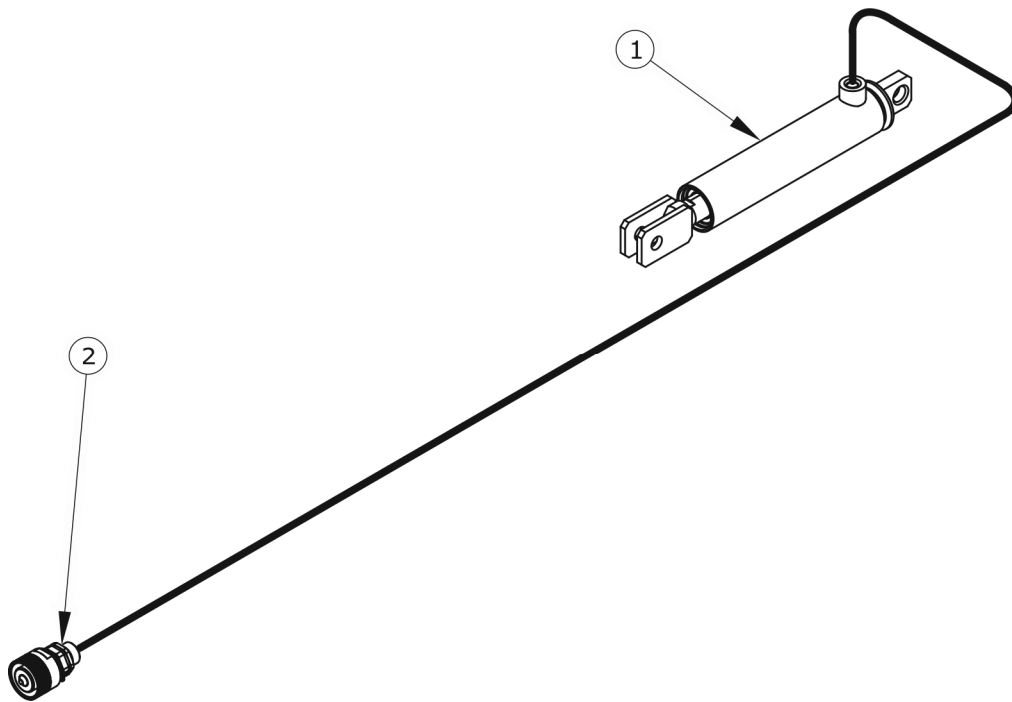

FIGURE 3.11 3-position brake force controller
- Hydraulic brake system - Figure 3.11.